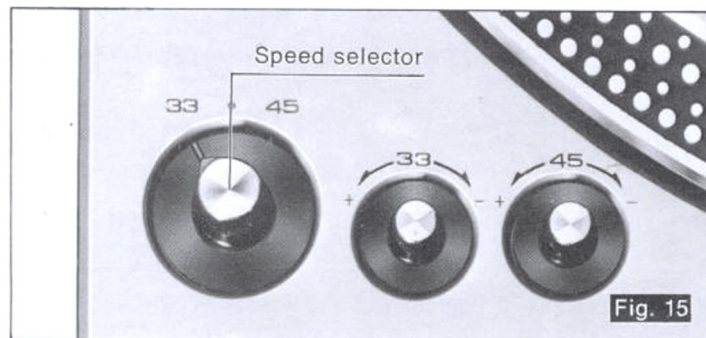

Fig. 15
- ① Set the speed selector to the desired record speed. (See Fig. 15.)